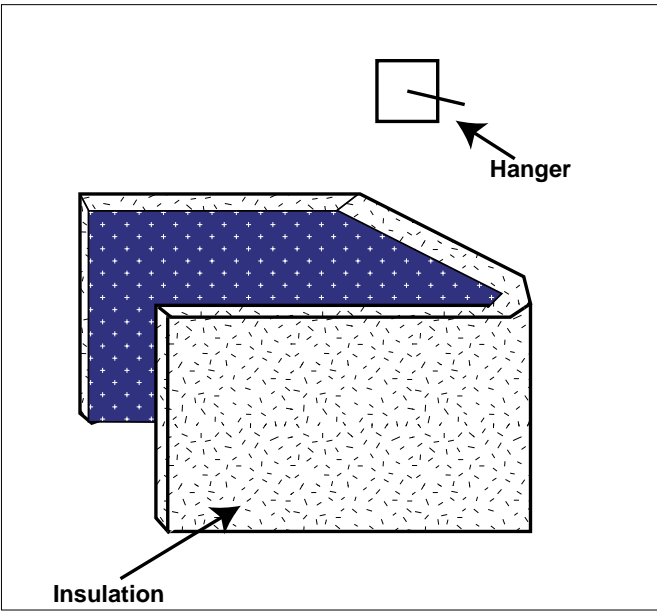

Figure 1. Wrapper Insulation
3. Bend the wrapper insulation into a "U" shape with the black mat face visible as shown in Figure 1. When sliding the insulation into the furnace, ensure the back and side are aligned with the top of the furnace and are flat against the inside walls. Place a washer over each hanger and press against the insulation securing it in place. Cut off the excess hanger that protrudes through the washer.